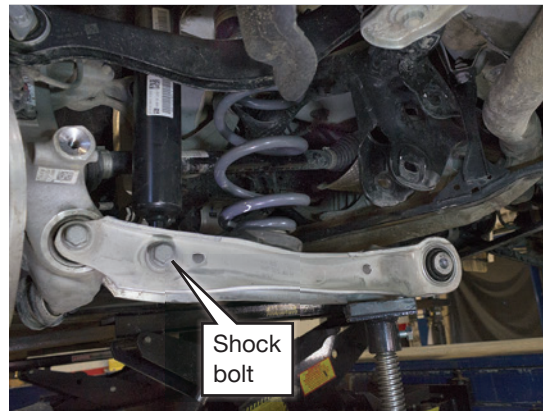

fig. D.2
5. Drop the lower control arm and remove the lower shock bolt. Remove the coil spring as well as the upper and lower spring seats (Fig. D.2).